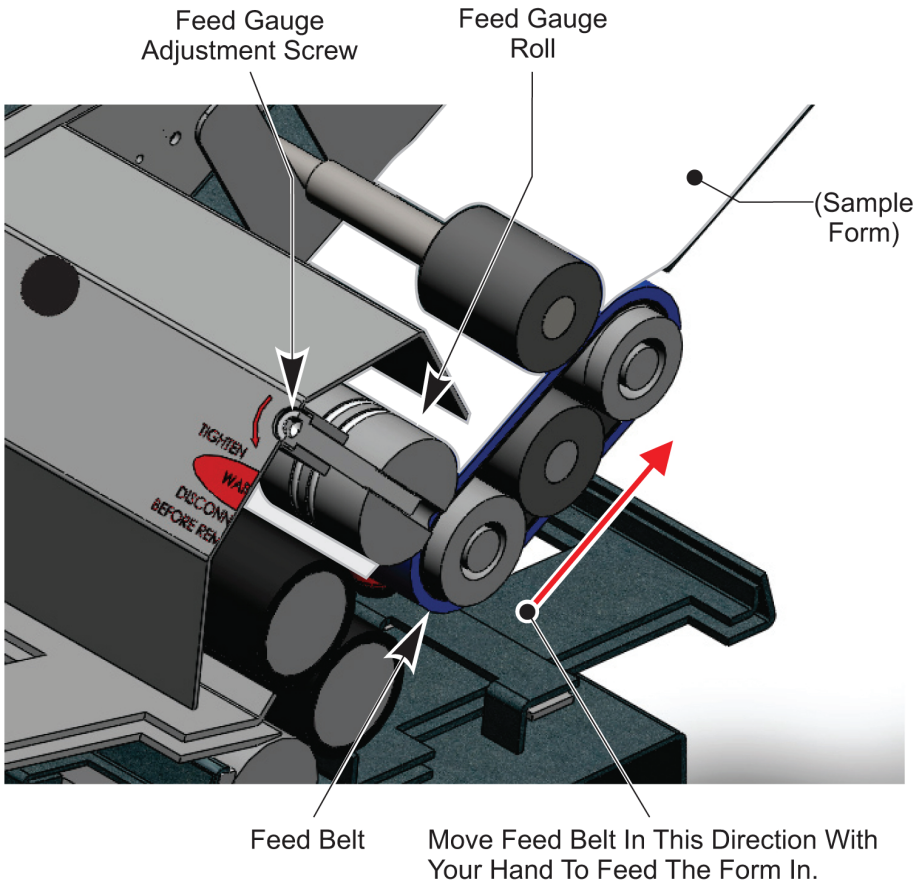

Figure 8: Feed Gauge Cross Section View
To properly set the **Feed Gauge System** [see Figure 8]:
1. Turn the **Feed Gauge Adjustment Screw** [see Figure 8] ¼ turn counter-clockwise.